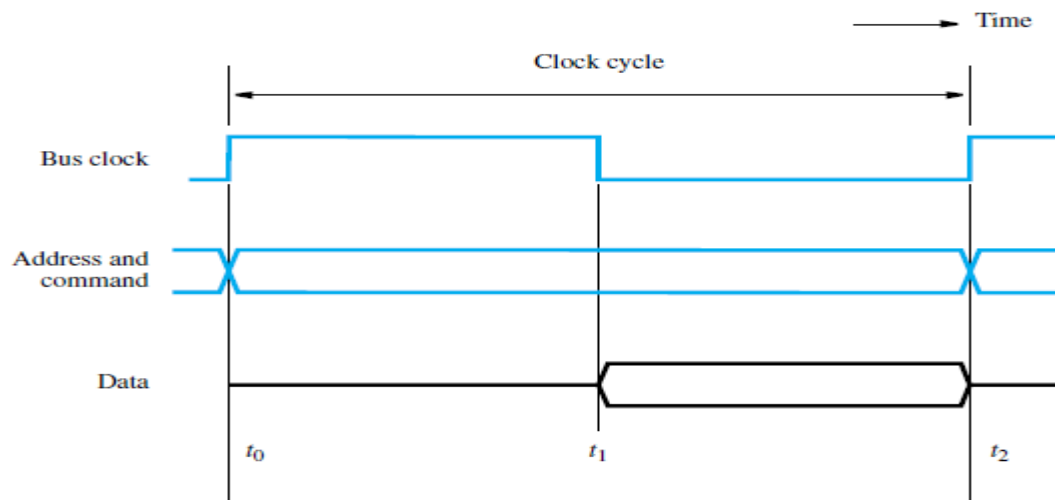

Figure 7.3 Timing of an input transfer on a synchronous bus.
- sends an appropriate command on control-lines (Figure 7.3).